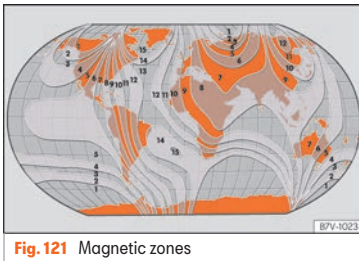

Fig. 121 Magnetic zones
- Select the magnetic zone corresponding to the position of the vehicle » Fig. 121.